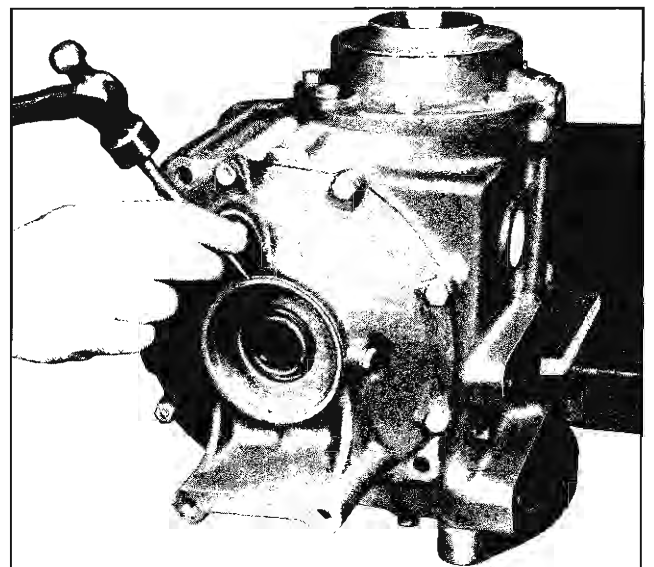

Fig. 4-28 Removing Side Bearing Oil Seal
3. Remove differential side bearing oil seals (Fig. 4-28).